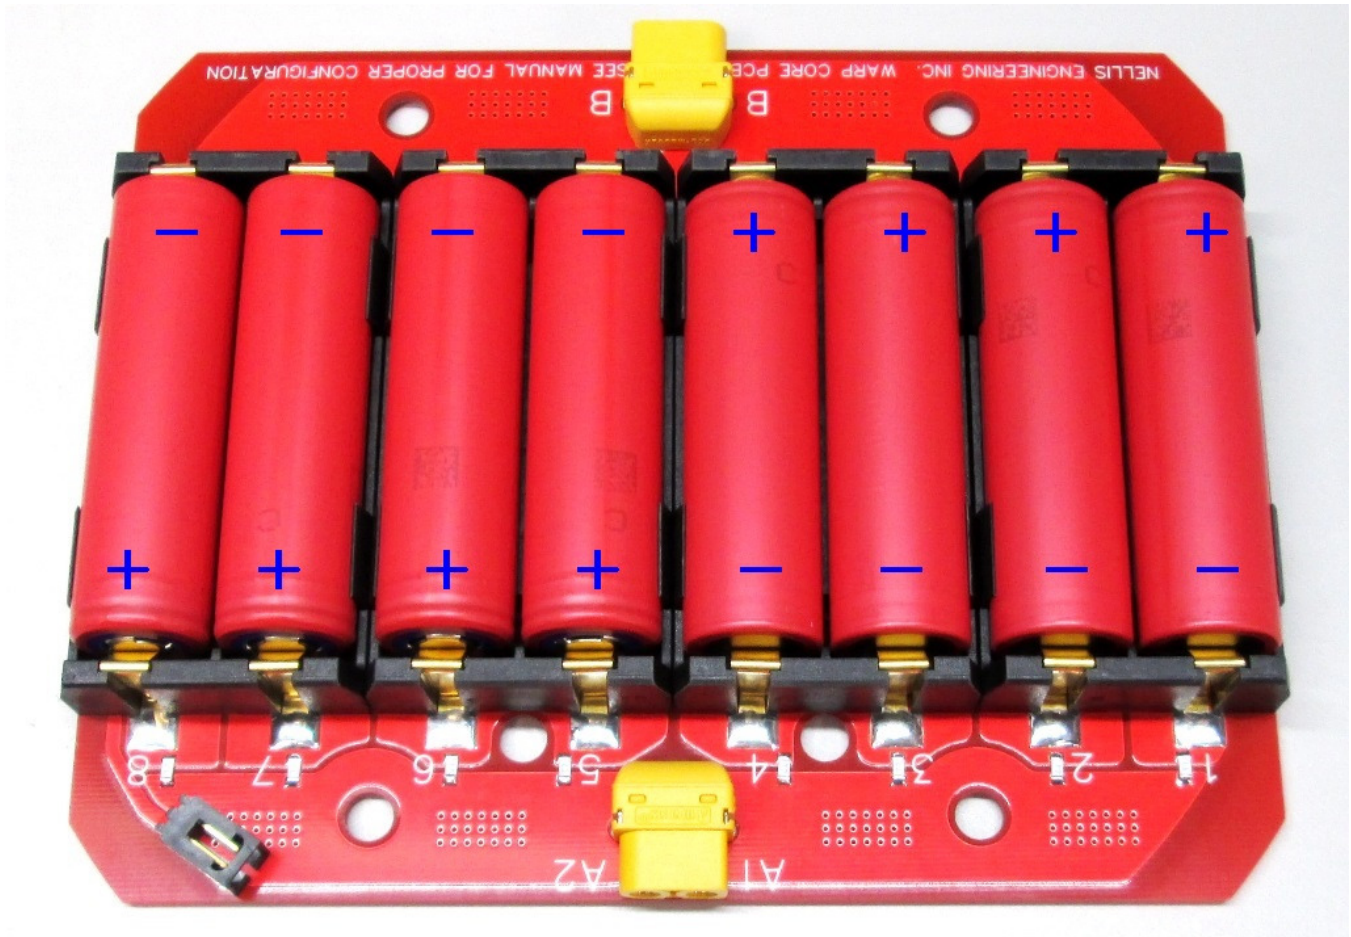

Figure 20 – 9 Layer cell orientation for Genesis 2.1
10. Install cells into the battery layer cell holders as shown in Figure 20, one cell at a time and negative end in first. Install cells in all 9 layers before assembling into the Warp Core stack.
12. Install cells into the battery layer cell holders as shown in Figure 20, one cell at a time and negative end in first. Install cells in all 18 layers before assembling into the Warp Core stack.